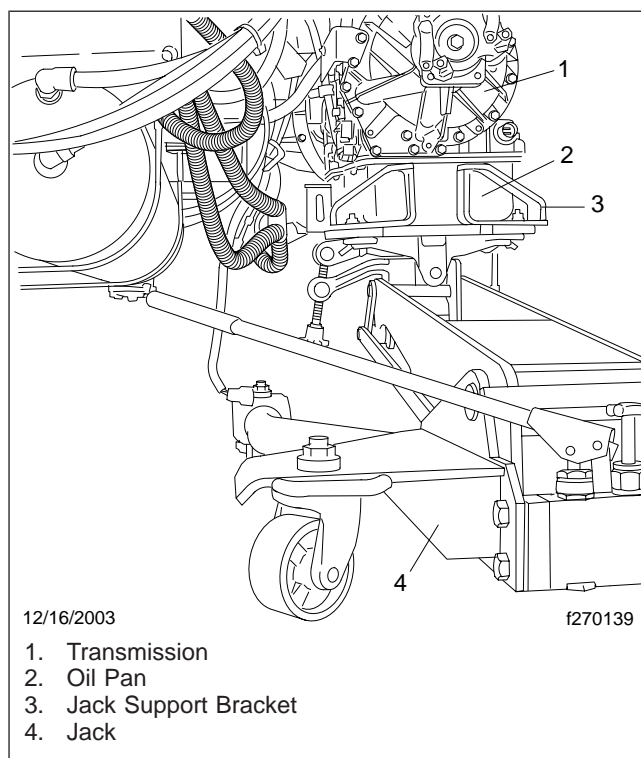

Fig. 12, Support the Transmission
11. Slide the jack into place under the transmission. Protect the oil pan with the jack support brackets. See Fig. 12. Secure the transmission with a chain. Anchor the chain with bolts at the front lifting bosses on the top of the transmission.